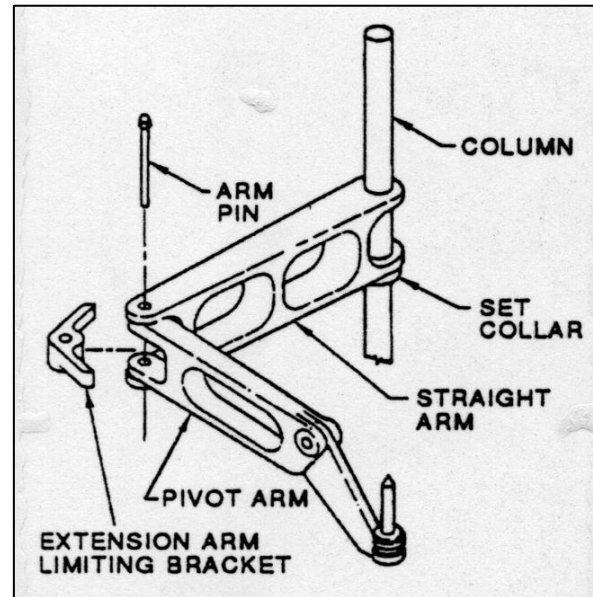

Figure 2
6. Slide the straight arm section onto the column. Connect the pivot arm to the straight arm with the arm pin (See Figure 2).
5. Slide the straight arm section onto the column. Connect the pivot arm to the straight arm with the arm pin (See Figure 2).
8. Slide the straight arm section onto the column. Connect the pivot arm to the straight arm with the arm pin (See Figure 2).